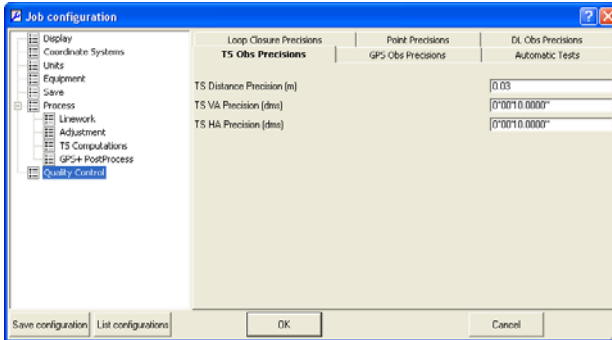

Figure 2-37. Job Configuration – TS Obs Precisions
- The *TS Obs Precisions* tab sets precision for a distance and horizontal/vertical angle of TS observations (Figure 2-37 on page 2-31). If the values of the distance/horizontal/vertical residuals from a net adjustment—with Rejection Criterion-By Control—are worse than the values set in this tab, the observations are highlighted in red on the *TS Obs* tab, Map view,